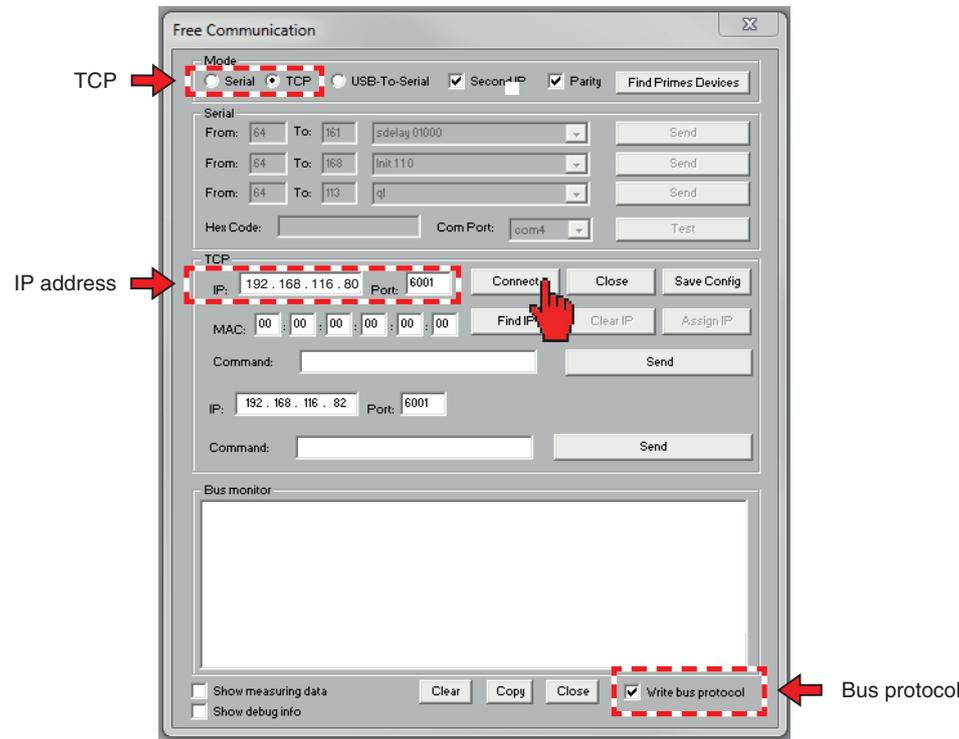

Fig. 19.14: Dialogue window **Free Communication**
3. Select “**TCP**” as the communication interface (see Fig. 19.14), activate **Write bus protocol** (bottom right corner) and type in the IP-address (standard is 192.168.116.80, please check the IP given on the type plate of your device).